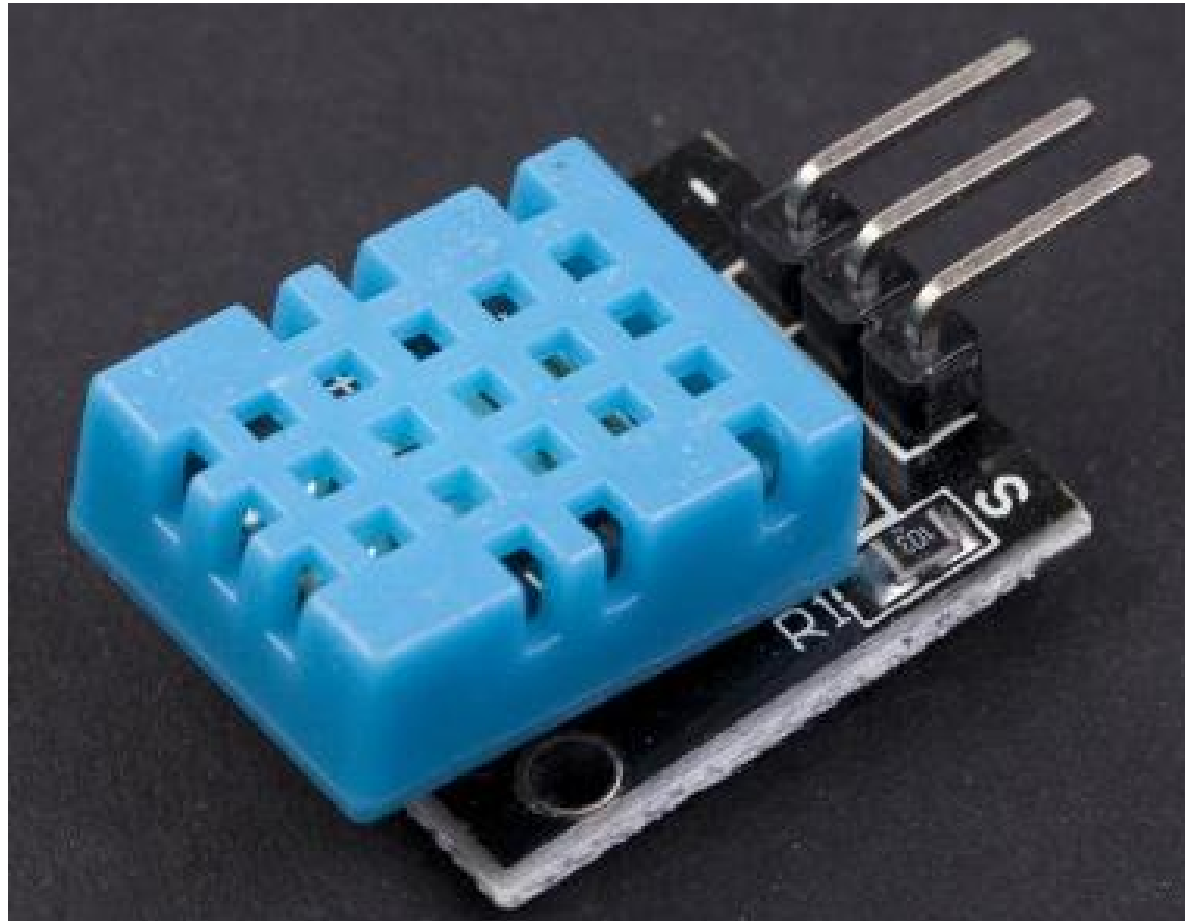

Figure 12-5. DHT11 humidity sensor
- DHT11 measures humidity and temperature (Figure 12-5).